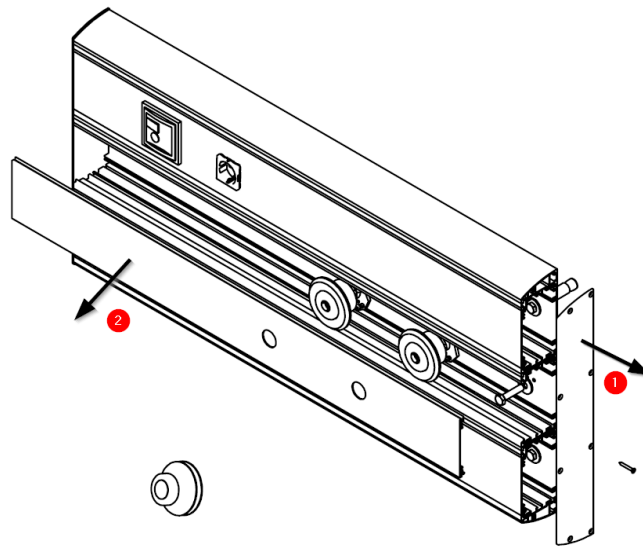

Fig.3 Removal of the side wall
In cases where the equipment has been ordered with PVC end caps, at least one end cap (1) must be removed before removing the gas circuit cover (2) (see Fig. 3).